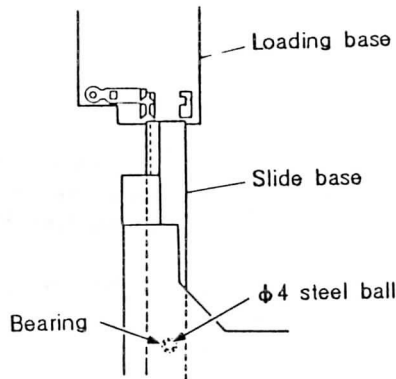
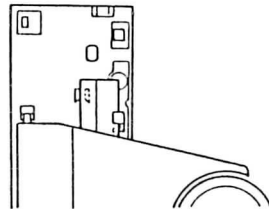

Fig. 10-7
Fig. 10-8
<p>Re-mount the disc tray according to the following procedure when the grating adjustment is complete.</p> <ol style="list-style-type: none"> <li>1. Remove the disc and the spacer.</li> <li>2. While lifting the clamp holder [marked ③ in Fig. 10-2] with the right hand, hold the tray in the left hand as indicated by ② and slide the slide base into the hard resin fittings on the loading base as shown in Fig. 10-7 to re-insert the disc tray. At this time, be sure to hold the steel ball in place with the index finger of the left hand. Also, be careful that the front panel is not damaged by the slide base and bearing of the steel ball's bearing (in the slide base) coming into contact with the panel.</li> <li>3. Insert the slide base so that it fits into the two hard resin fittings at the rear of the loading base (see Fig. 10-8).</li> <li>4. Insert the tray all the way.</li> </ol>